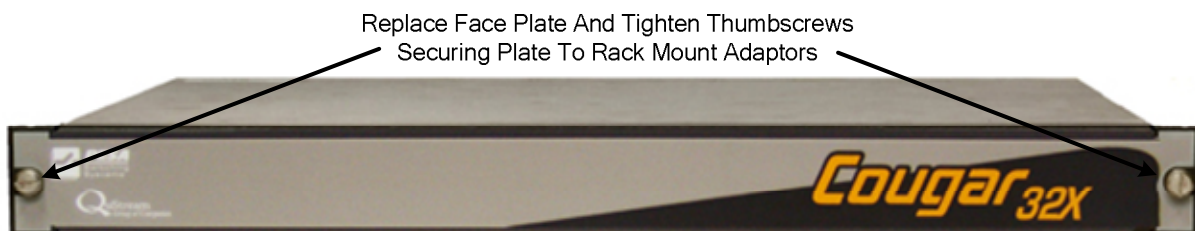

Figure 3-9 Front Panel Replacement
- Wait a few seconds for each frame to perform processor boot-up, and observe status of the ERROR LED located on front edge of the main circuit card as shown by Figure 3-9.